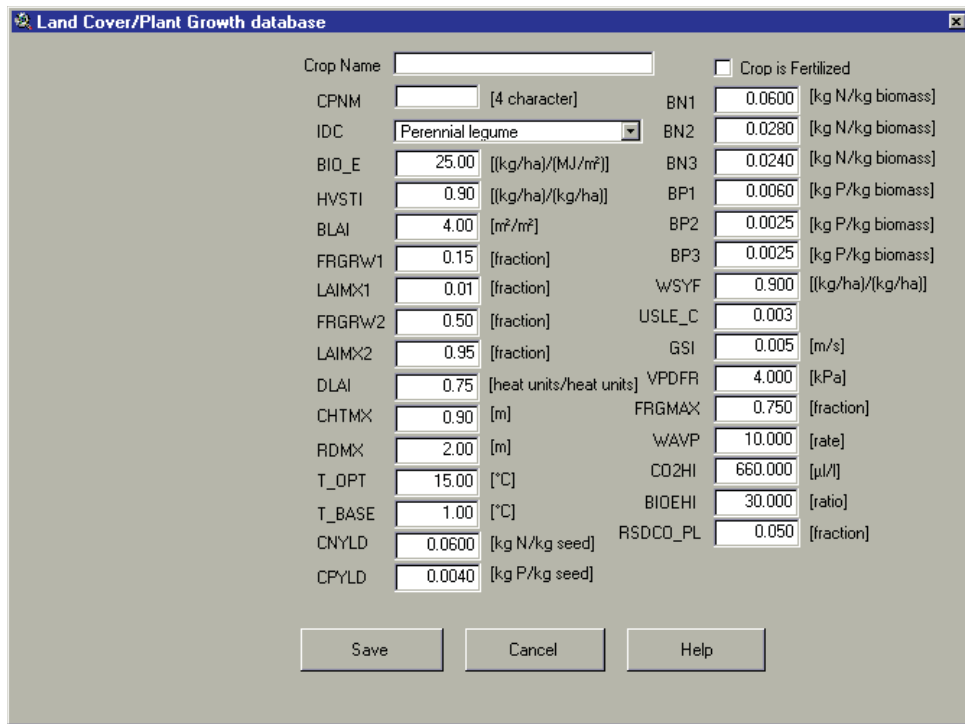

Figure 14.37
- c. A modified dialog box will appear with all the data fields filled (copied from the previously selected land cover), except the land cover name (Figure 14.37).